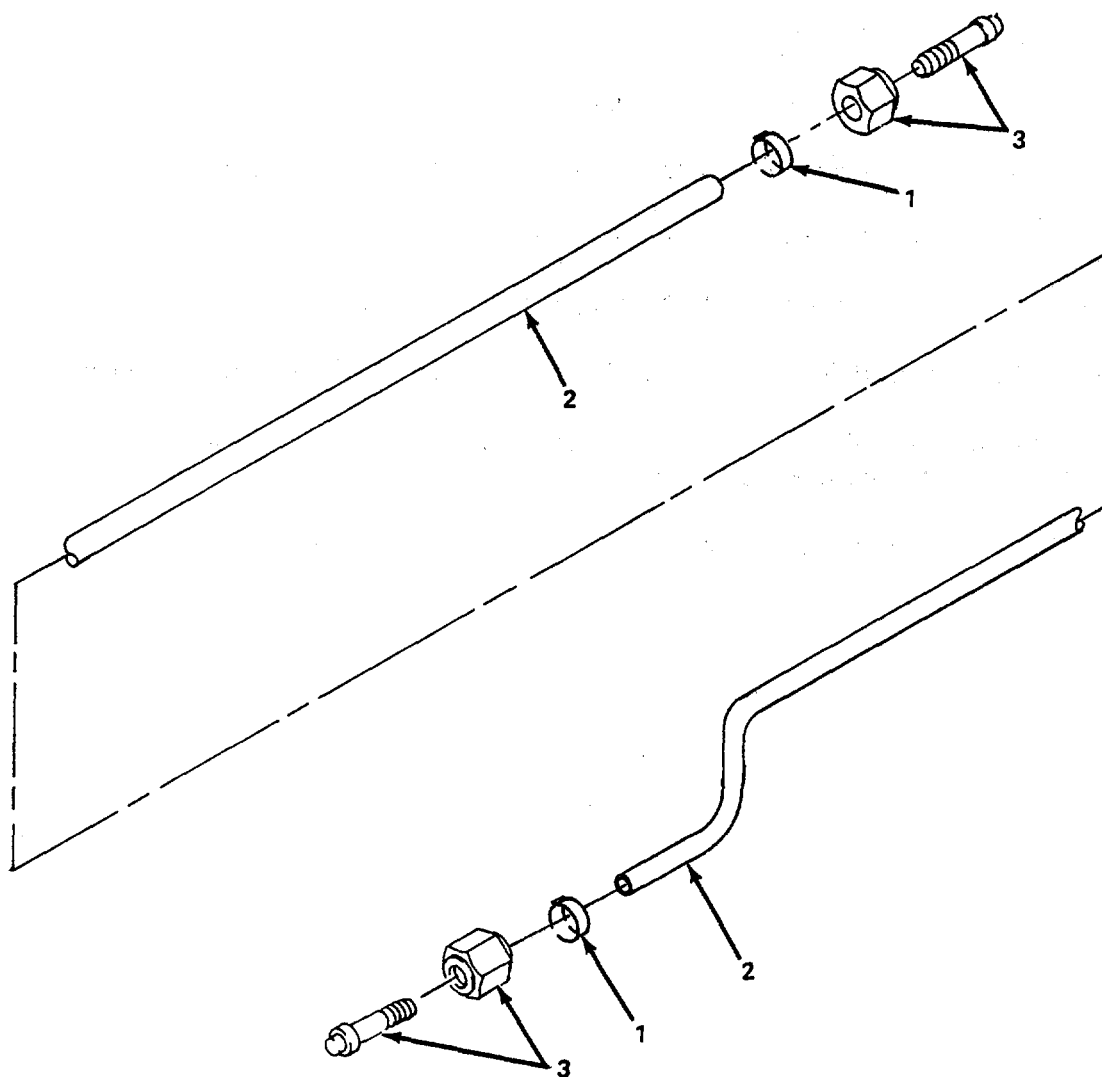

Figure 6-2. Pneumofathometer Hose, Fabrication.
- (2) *Pneumofathometer hose.* (figure 6-2)